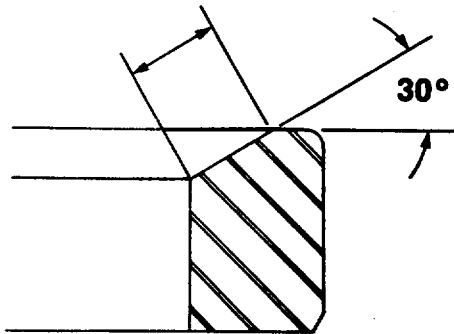

FIGURE 4-31. Valve Seat Angle and Width
- (10) Use valve seat grinding machine and valve guide arbor set to grind the insert to the angle and width shown in FIG. 4-31.